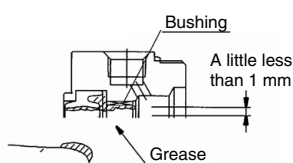

Fig. 6 Rod seal
- ③⑧ Rod seal B: Apply grease to the seal and the inner circumference of the bushing. (Fig. 6)